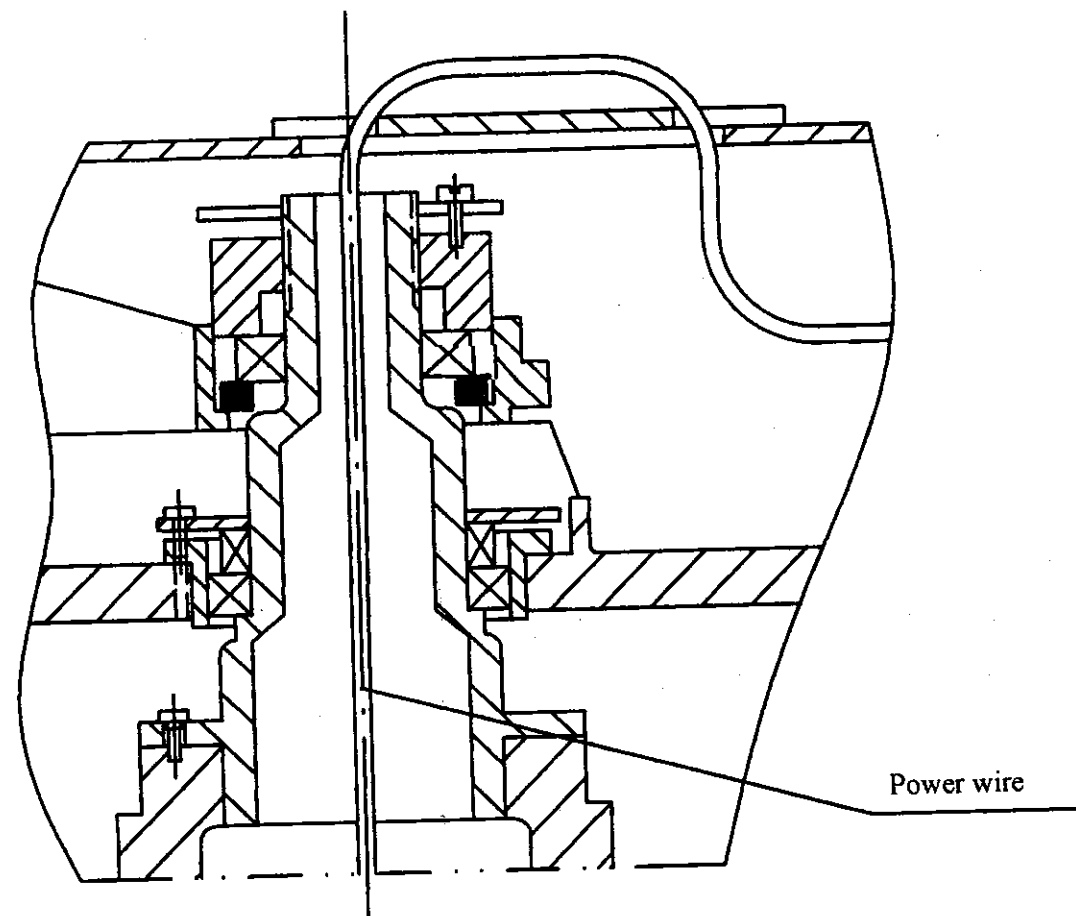

Fig. 2.13 Wiring Laying of Column Top
2.4.7.1 Pass the power line through the column top as shown in Fig. 2.13: wiring with rock arm rising-falling motor (see 2,3,6,1.).